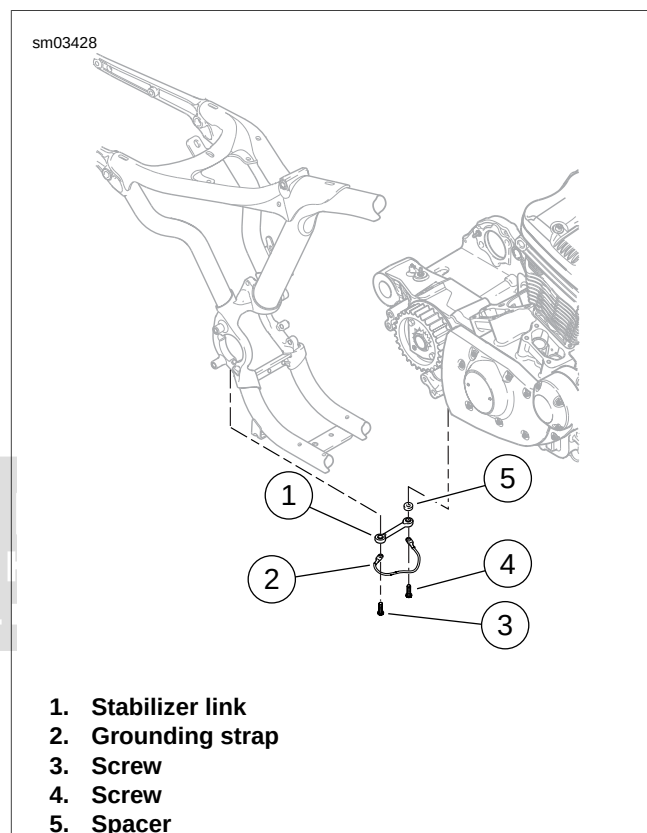

Figure 2-210. Rear Stabilizer Link Assembly: Typical (XL Model Shown)
3. See Figure 2-210. Remove short screw (3), long screw (4), ground strap (2), stabilizer link (1) and spacer (5).
1. See Figure 2-210. Install short screw (3) through ground strap (2) and stabilizer link (1). Thread screw into frame on right side of motorcycle. Do not tighten at this time.
2. Install long screw (4) through ground strap, stabilizer link and spacer (5) into engine case.
6. See Figure 2-210. Remove screw (4) from left end of rear stabilizer link (1) and ground strap (2). Remove spacer (5).
7. See Figure 2-210. Install screw (4) through free end of ground strap (2), rear stabilizer link (1), spacer (5), and into engine crankcase. Tighten to 25-35 ft-lbs (33.9-47.5 Nm).
15. See Figure 2-210. Remove screws (3, 4) securing rear stabilizer link (1). Remove stabilizer link, ground strap (2), and spacer (5).
9. See Figure 2-210. Install short screw (3) through ground strap (2) and rear stabilizer link (1) into frame on right side of motorcycle. Install long screw (4) through free end of ground strap, stabilizer link and spacer (5) into engine case. Tighten both screws to 25-35 ft-lbs (33.9-47.5 Nm).